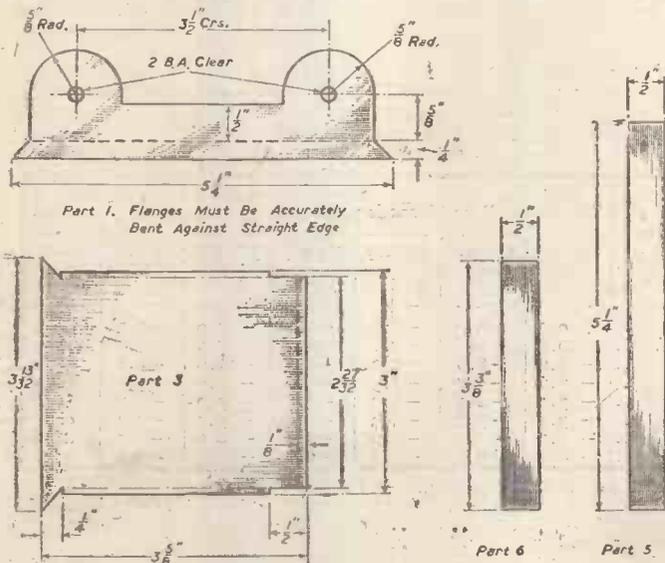

Fig. 4.—Details of side plates, and blank for forming cylindrical cover.
These are each numbered (3) and their shape, in the flat, is shown in Fig. 4. The curve in each was obtained by bending over a brass tube of  $1\frac{1}{4}$  in. diameter.